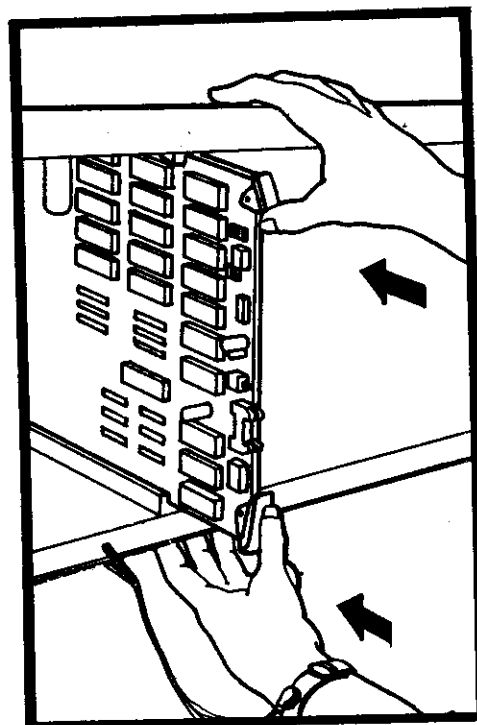

Figure 5-8 PCBS INSERTION INTO KSU
5.07 PCBs should be installed with the thumb of each hand on the PCB extractors while the fingers rest on the KSU frame. (Figure 5-8). Do not use the heel of the hand, or any tool, to hammer a PCB into the KSU.